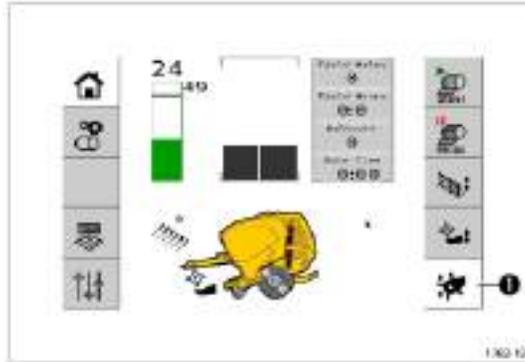

Figure 62. Screen
- [1] Press key or screen softkey (see Figure 62 on page 9-3)to activate the pick-up.